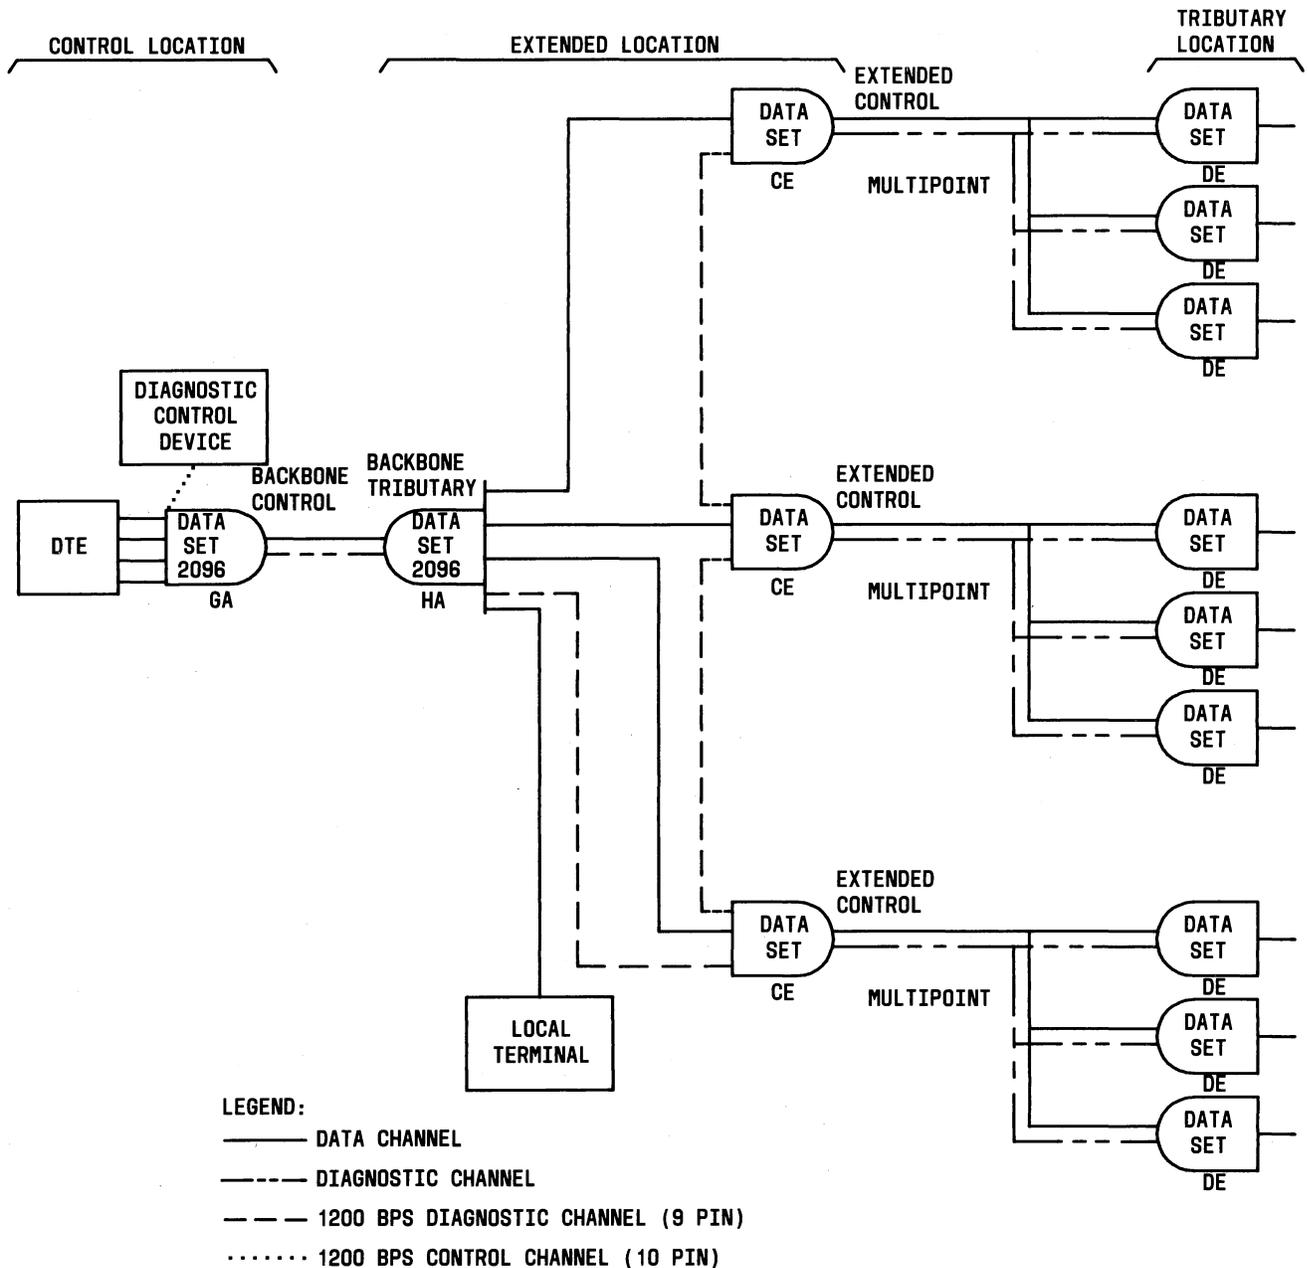

Fig. 23—Extended Service Example
**3.06** Figure 23 shows an example of three extended service circuits and a local terminal that are multiplexed over a 9600 bps data link (backbone channel) to a data terminal equipment (DTE). The diagnostic connections in this circuit consist of a diagnostic control device (DCD) connected to the control channel at the control location (denoted by a dotted line) and diagnostic channel interconnections between colocated data sets at the extended location (denoted by dashed lines) by M9F, M9G, and M9H cords. These connections allow the diagnostic capabilities to be extended throughout the network. The data channels are extended by interconnecting, with M28A cords, the 2096A customer interface connectors to the appropriate colocated data set interface connector.